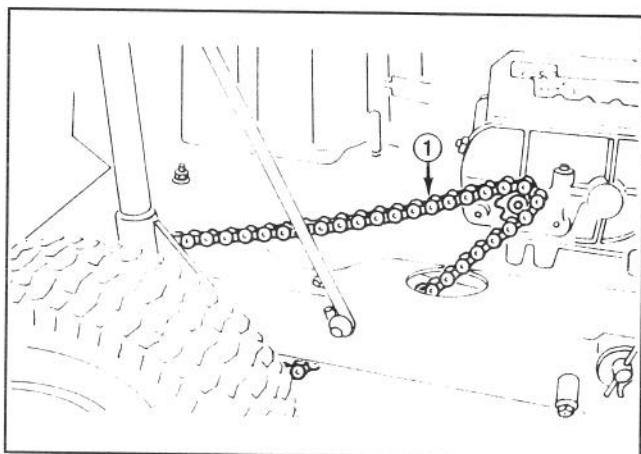
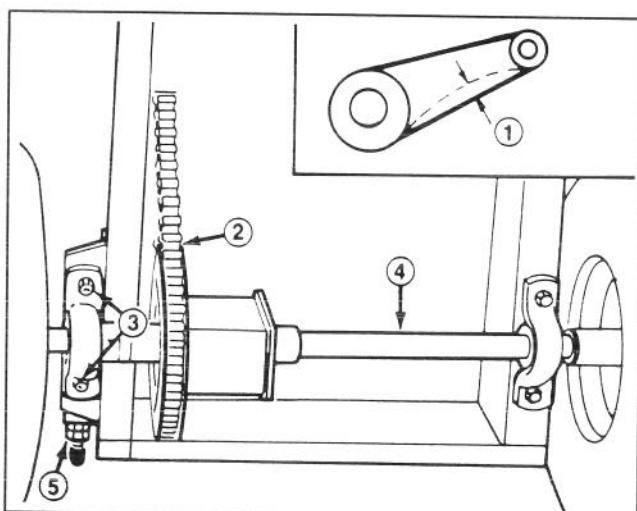

Figure 22
Figure 23
2. Check the deflection of the drive chain by lifting up and pressing down on the chain with moderate pressure at mid-span (Fig. 22). There should be 1/8 of an inch (3 mm) total deflection (Fig. 23). If deflection is not as specified, an adjustment is required—steps 2-13.
7. Loosen the four flange nuts securing the pillow blocks w/differential axle to the rider frame (Fig. 23).
8. Loosen the rear jam nut on the chain tensioner (Fig. 23).
11. Since the differential axle must be parallel to the rear of the chassis, measure the distance from the center of the pillow blocks to the rear of the chassis (Fig. 23). The difference between the two measurements must not exceed 1/8 in. (3 mm). If it does, the differential axle is not parallel with the chassis; therefore, it must be readjusted.